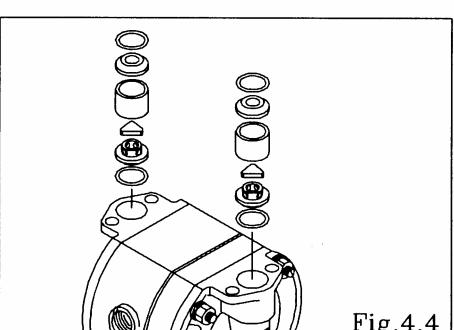

Fig.4.4
- Remove the O ring, valve seat, flat valve, valve guide and valve stopper. (NDP-5) [Fig.4.4]
- Remove the O ring, valve seat, ball and valve guide. (NDP-15) [Fig.4.4]